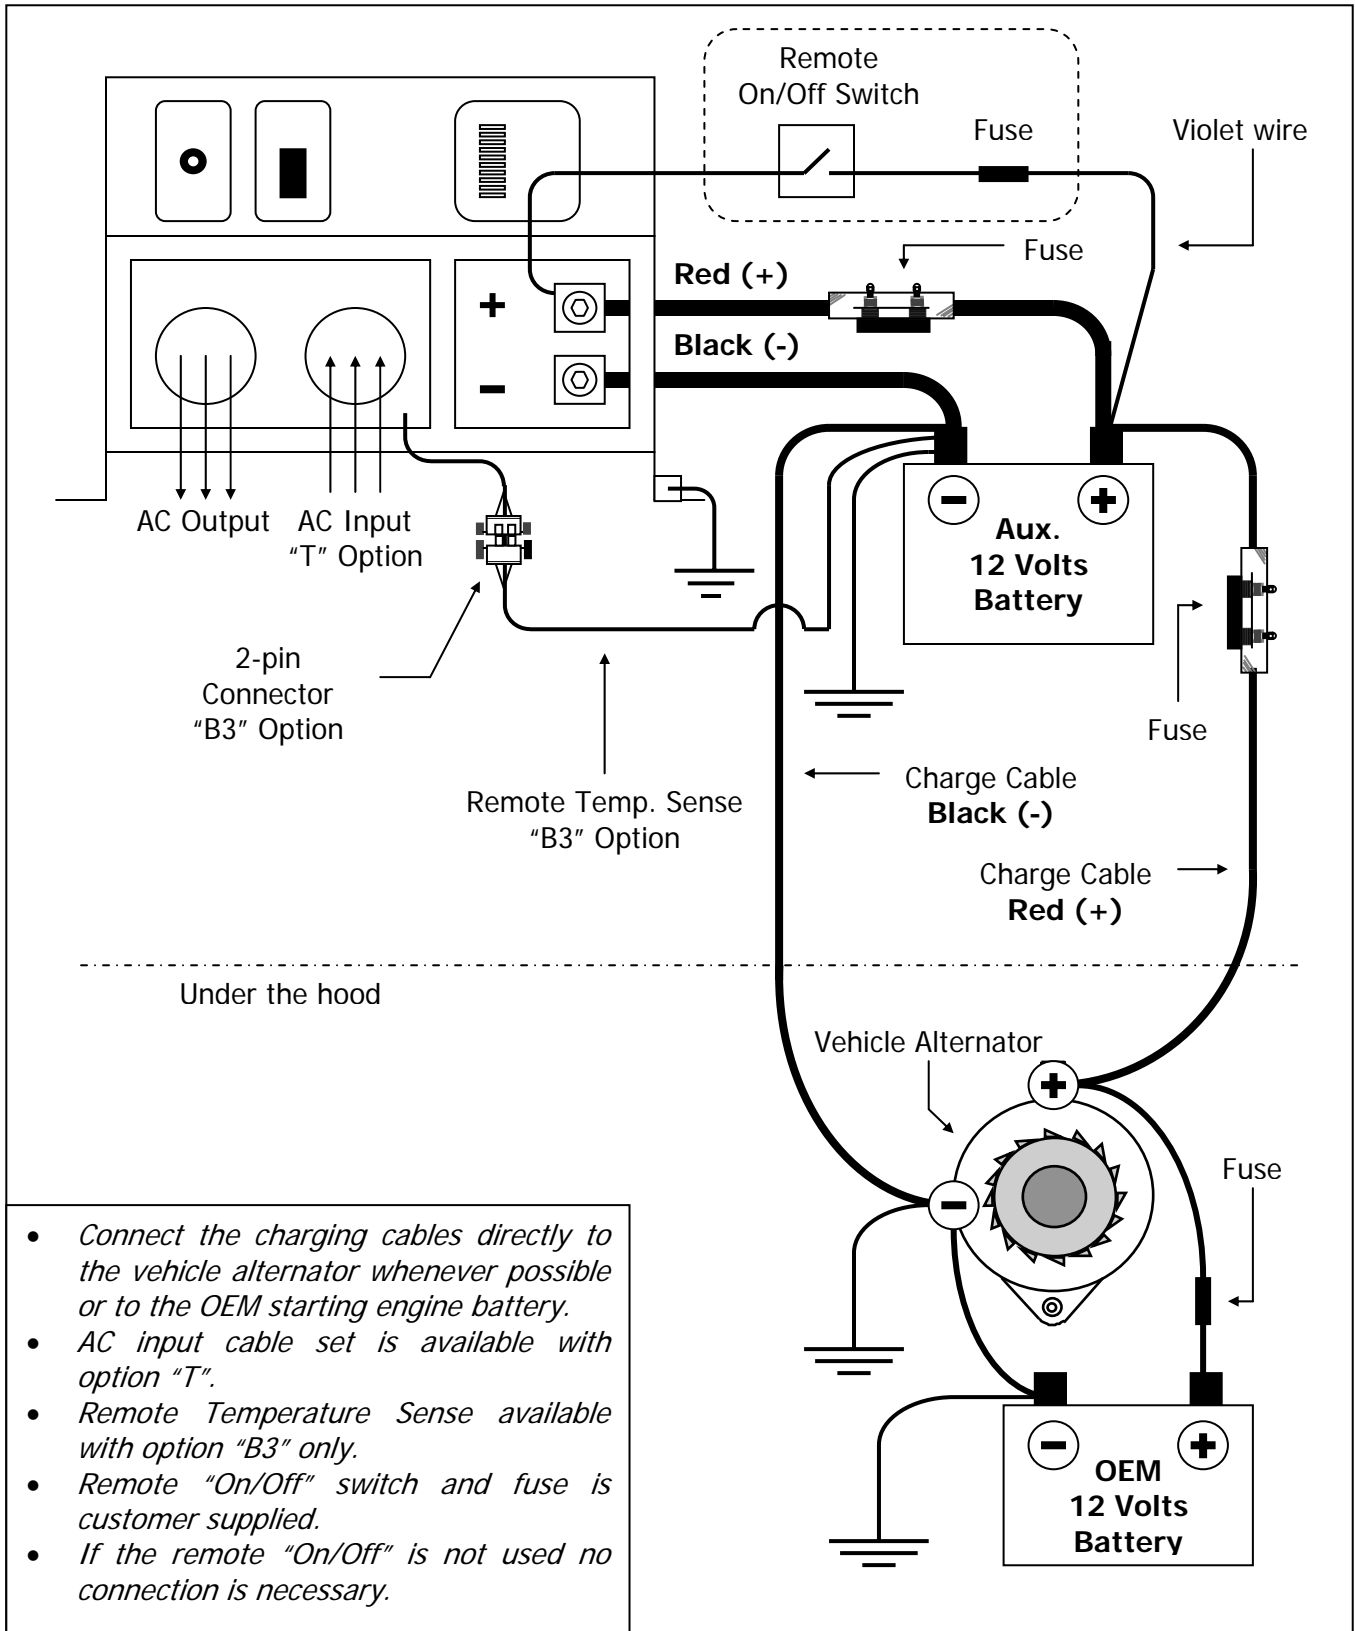

Figure 5: DC wiring diagram
- Refer to Figure 5: DC wiring diagram.